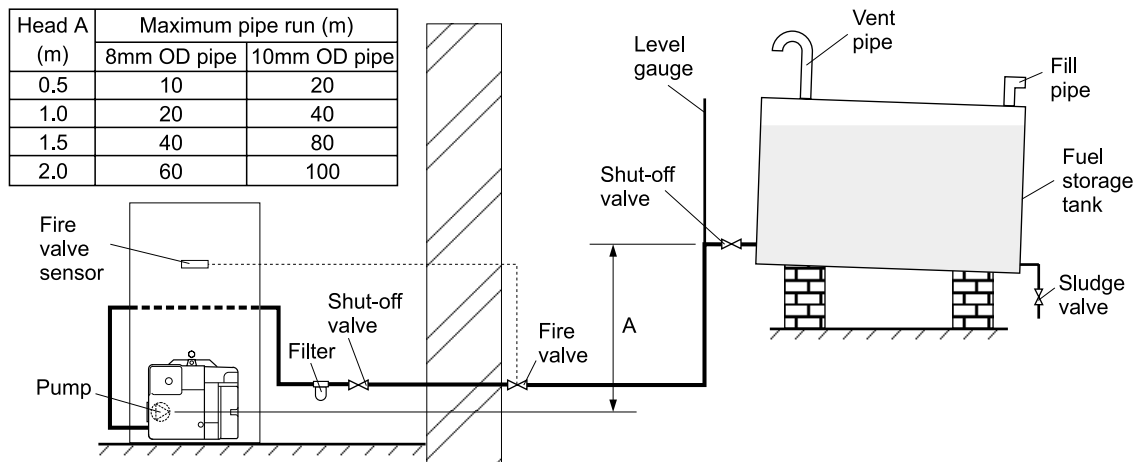

Fig. 2 - Single pipe system
3.4.3 Single pipe system - (See Fig. 2)